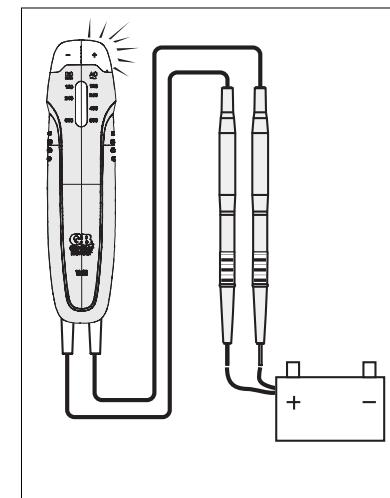

Fig. 1
4.1 Measuring DC Voltage Levels Measure the voltage by touching the test lead tips to the circuit where the value of voltage is needed. If the "+" test lead is on the positive contact the +VDC light will illuminate. If the "+" test lead is on the negative contact the -VDC light will illuminate. **Fig. 1**